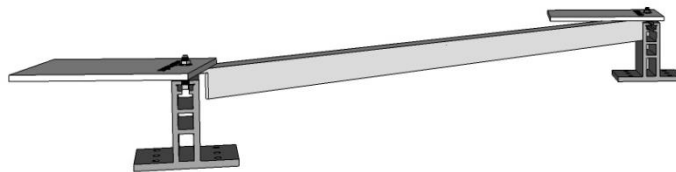

Fig. 4
- The 40 ½" Sol Attach micro-rails are notched at each end so that they can set on the mounts at an angle and thus accommodate the staggering of the trunk cable (fig 4).